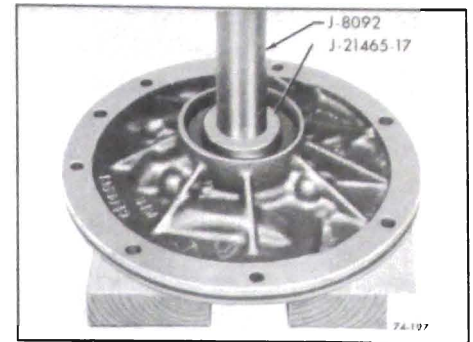

Figure 74-187
13. Check oil pump bushing for nicks, severe scoring or wear. If bushing replacement is necessary remove as follows: Support pump on wood blocks using Tool J-21405-17 and Drive Handle J-8092. Press bushing out of pump body. See Figure 74-187.